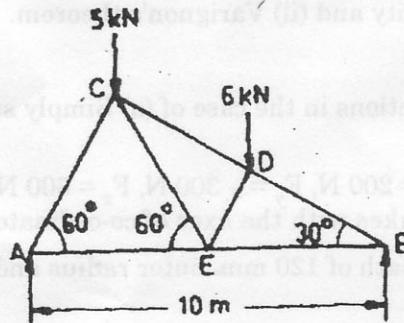

Figure 3 Or
- III. (a) Find the forces in the various members of the frame shown in Fig. 3.